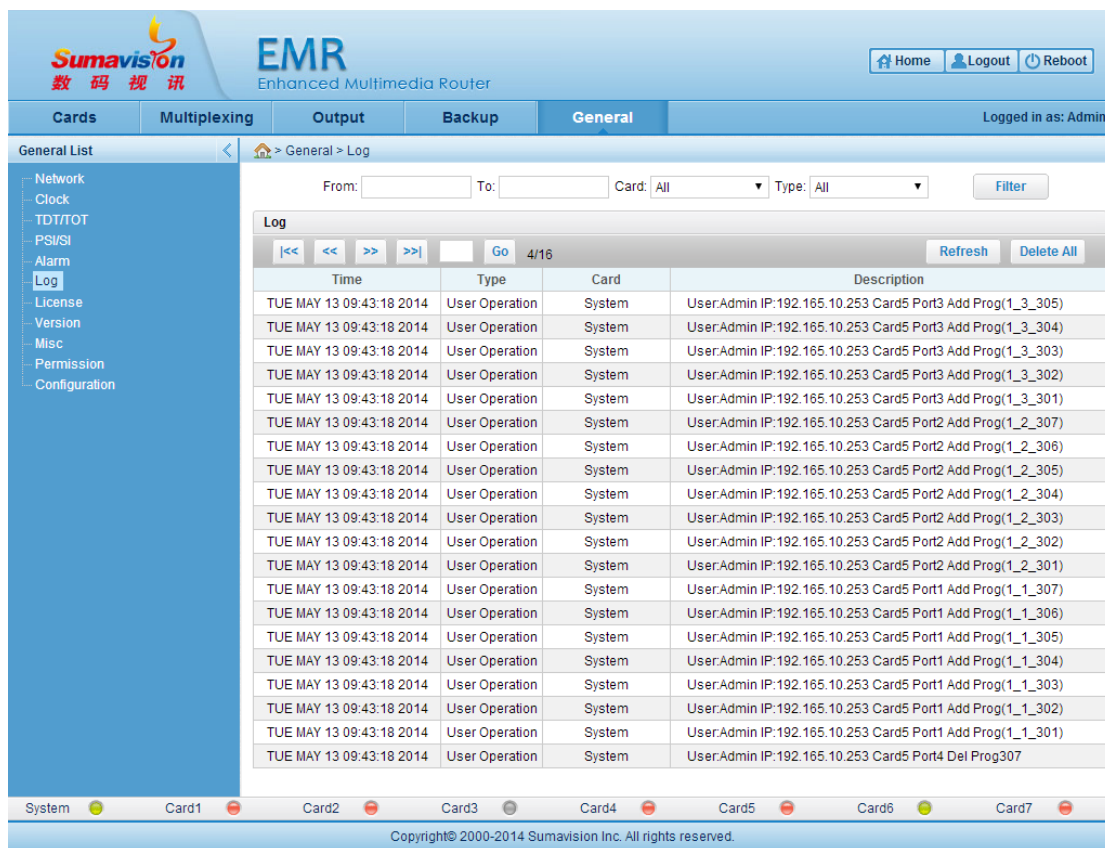

Fig. 5-8 WEB Management Log page
- Log: this page is used for inquiring EMR and warning information of each daughter card. It can sieve and display the log according to the condition. Click “Refresh” to inquire, as shown in Fig. 5-8 WEB Management Log page.